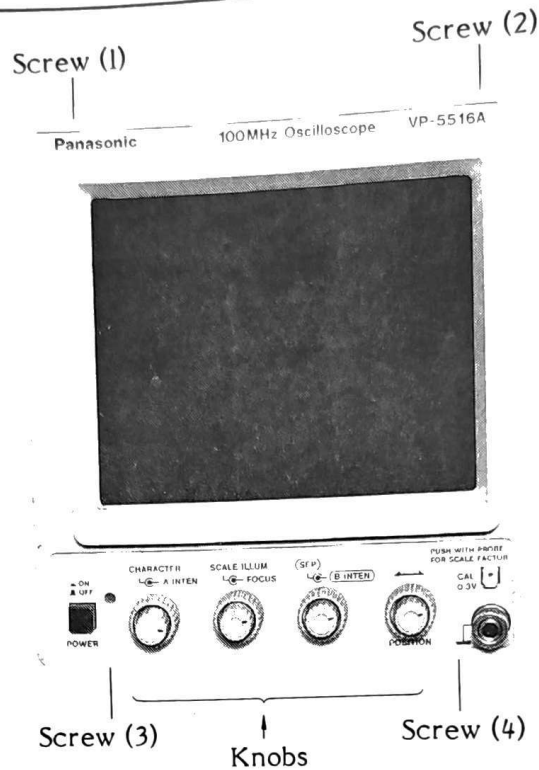

Fig. 6-1 Removal of Bazel
(2) CRT screen
- (d) Remove eight control knobs (see Fig. 6-1) by hand.
- (e) Remove four screws around the bezel (see Fig. 6-1) and remove the bezel with the tinted light filter.